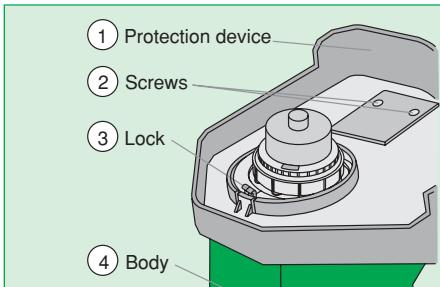

Fig. 1
- ✓ TRAPP lawn mowers/trimmers are already assembled when delivered with the exception of the protection device. It is conditioned together with the equipment in the same package. To assemble it, turn the lawn mower/trimmer upwards (Fig. 1)
- ✓ Place the protection device as per drawing, and fit it in lock (3) (Fig. 2). Press it to the body (4), put screws (2) in position and tighten them (Fig. 1).